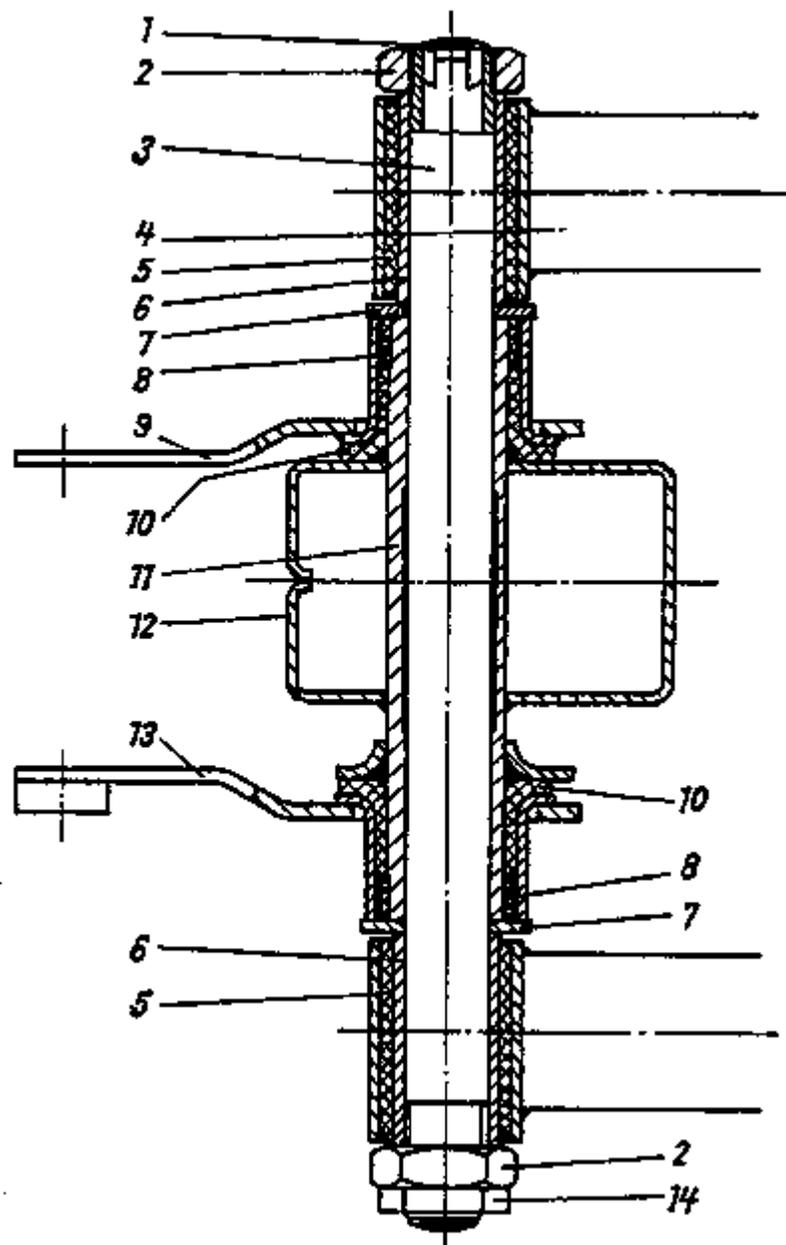

Fig. 75. Swing-arm bearing
Remove the setting ring (14) and the left-hand hexagon nut (2), leave the right-hand swing bearing bolt with auxiliary mandrel and the auxiliary mandrel for centring plugged into the swing arm (see Figs. 75 and 77).